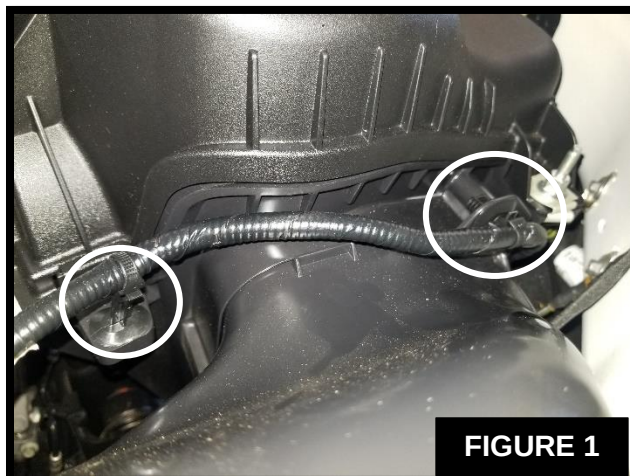

FIGURE 1
Step 4: Remove the two (2) clips holding the IAT harness to the Factory housing. Refer to **Figure 1**.